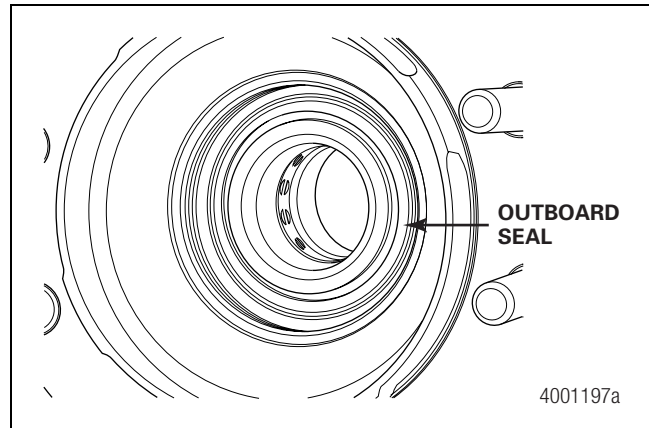
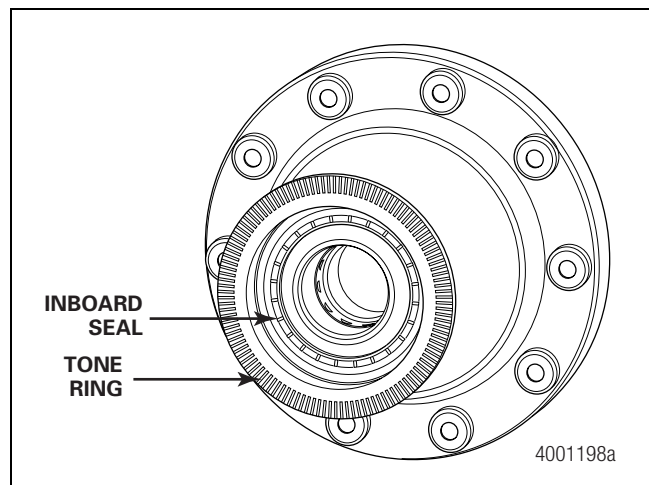

Figure 13.15
Figure 13.16
- A. There is no visible damage to the inboard or outboard seals and the bearings have not become unseated. Figure 13.15 and Figure 13.16.
- B. The tone ring teeth are not damaged and there are no broken or missing teeth on the tone ring. Figure 13.16.